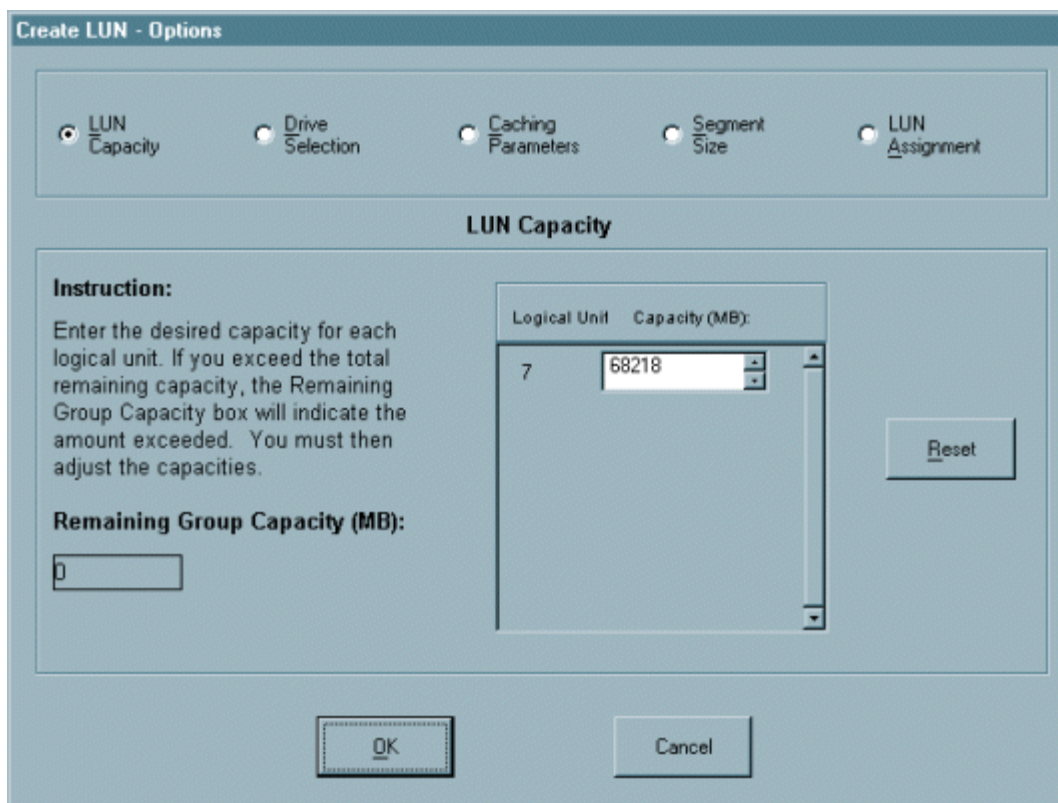

Figure 38. Create LUN, Options
6. Select **Options**, and a screen like that shown in Figure 38 will appear.